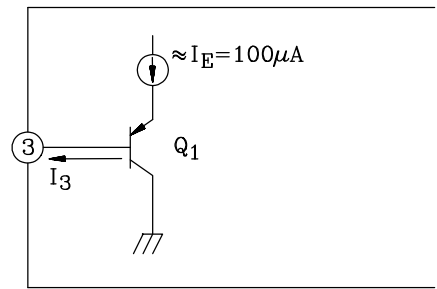

Fig. 1
(1) Threshold Voltage
Pin③ is coupled to the base of Q_1 (PNP-Tr) as shown in Fig.1.
(3) I_3 (In Fig.1)